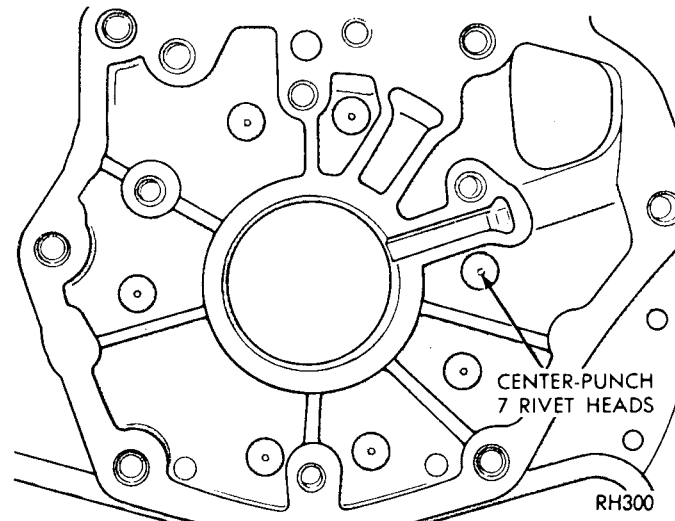

Fig. 36—Center Punch Rivet Heads (A-904T and A-999)
- (1) Remove four bolts securing output shaft support to rear of the transmission case. Tap support rearward out of the case with a soft-faced hammer.
- (2) Center punch the rivets exactly in center of each rivet head (Fig. 36).
- (3) Drill through each rivet head with a 3/8 inch drill. Be careful not to drill into the transmission case.